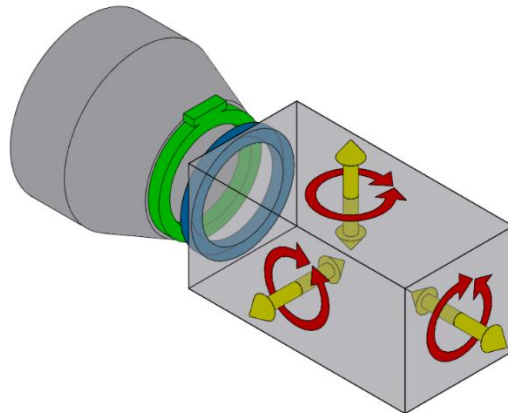

Figure 13-2: Be cognizant of translational and rotational alignment and compliance.
13.1.7	<p>Align the Upper Ring to the Lower Ring in translation and rotation. See step 8.1.12 for alignment features.</p> <ul style="list-style-type: none"> Ensure the Separation Springs will not be inhibited from engaging their corresponding holes in the Upper Ring flange. It is essential to align all 6 SV DOF prior to actually compressing the Lightband. See Figure 13-2.